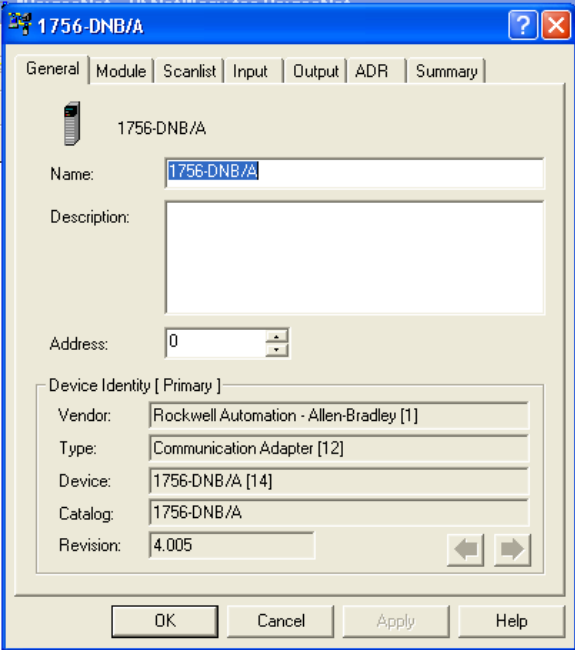

Figure 3-16: Scanner Properties Dialog: Initial View
6. The scanner's properties dialog box will appear, as in Figure 3-16.